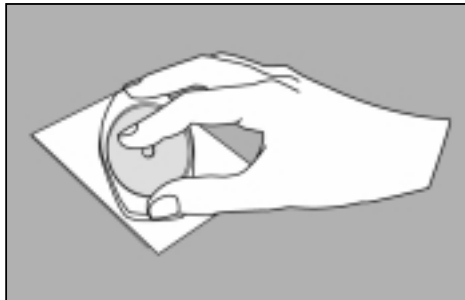

Figure 6
6. **Gently** apply pressure on the spreader to distribute the inoculum over a circular area. Do not twist or slide the spreader (fig. 6).